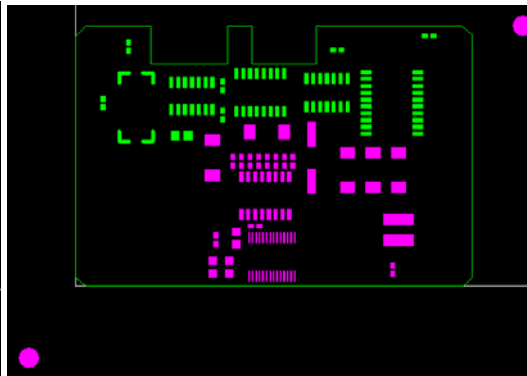

Figure 17
10. Select OK. You will see that the selected pads have been converted to pads (as shown in Figure 17).
11. Now we can use Advanced Scan and Replace to convert the remaining 'pads' on the layer. Zoom in to an area that contains a number of SMD pads (note that they should be drawn using the Trace color (green in Figure 17) Click on ONE of these traces so that it is highlighted